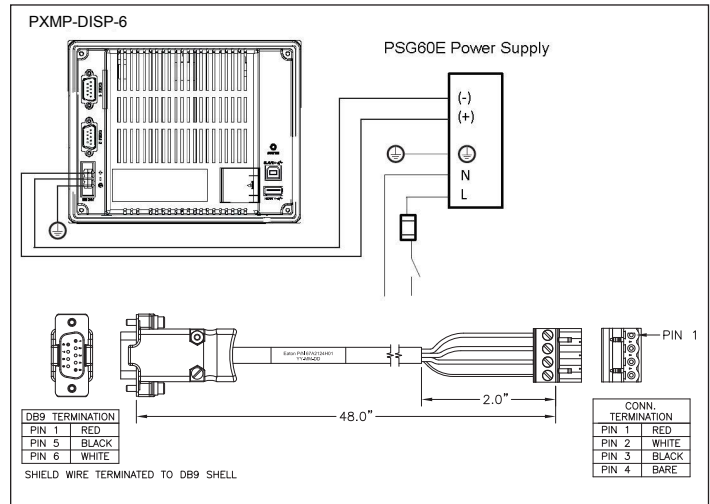

Figure 47. Power and Com Port Connections for the PXMP Touch Screen Display (Refer to Section 4.4, Figure 69 for more detailed drawing).
11. Connect the local 24 Vdc power supply from the Power Input Terminals on the back of the display to the 24 Vdc power source (see **Figure 47**).
12. Connect the supplied COM cable from COM 2 port on the back of the display to COM 2 terminals on the PXMP Meter (see **Figure 47** and **Table 7**).